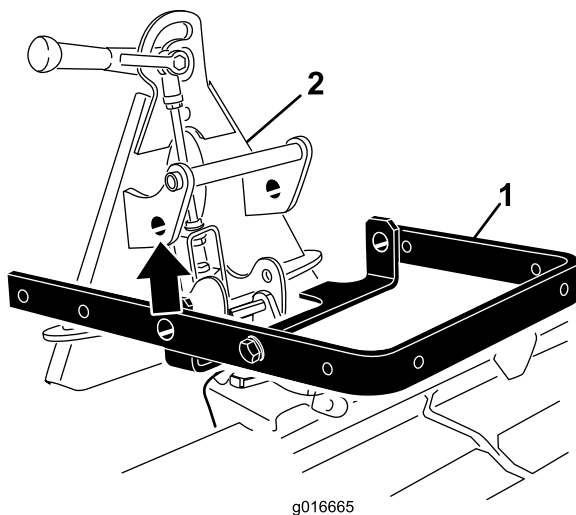
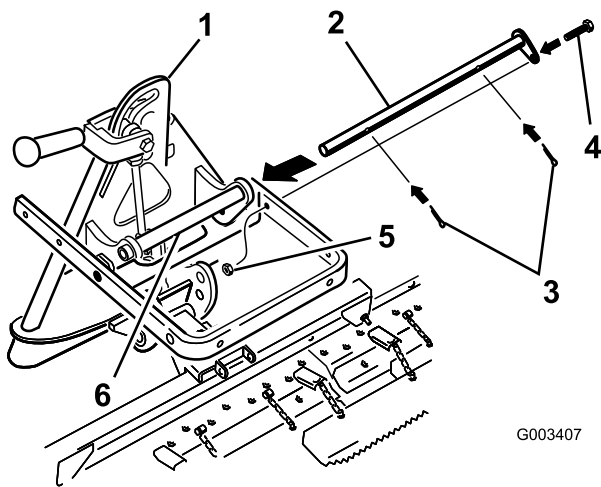

Figure 4
Figure 5
- Align the lift arm with the bracket on the attachment adapter (Figure 4) and connect them using the pivot bar as illustrated in Figure 5.
Note: When moving the attachment adapter, use the handle provided on the back of the adapter (Figure 4).
- Secure the pivot bar with 2 cotter pins and a bolt (3/8 x 1-1/4 inches) (Figure 5).